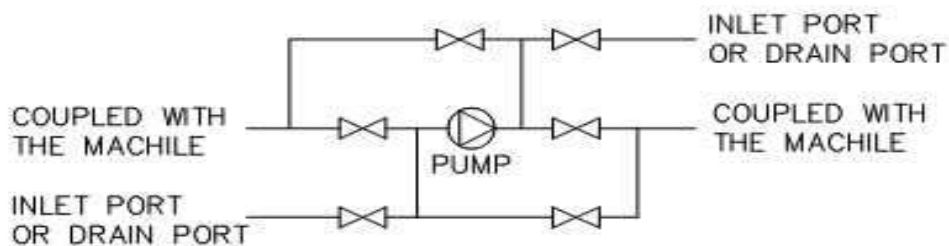

Fig. 7-17. Tube Cleaning Circuit around Pump
(1) Prepare water, cleaning agent. Neutralizing agent and rust preventive.
(2) Confirm the area and circuit to be cleaned.
(3) Prepare protection tools (Gloves, Goggles, Mask, Etc.)
(4) Make the cleaning circuit around the pump as shown in Fig. 7-17. for reversing water flow.